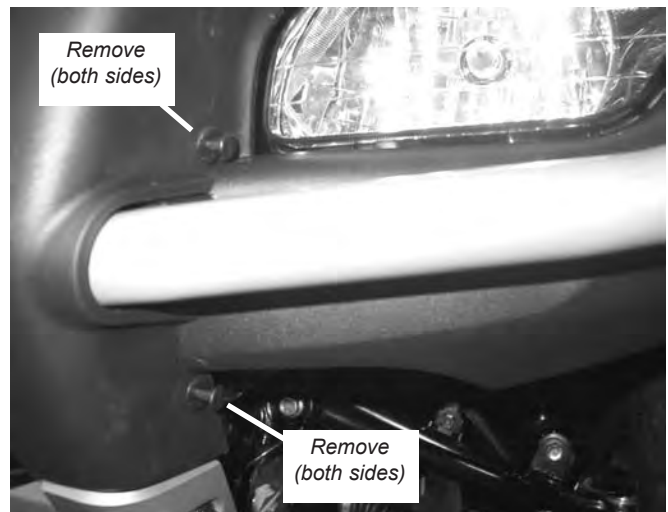

Figure 2 Remove the Four Plastic Rivets
2. Remove the four plastic rivets on each side of the front plastic fascia, figure 2. Use a large screw driver to carefully remove the center rivet. After removing the center rivet, remove the rivet housing. Save the fasteners as they will be used to reinstall the front plastic fascia.